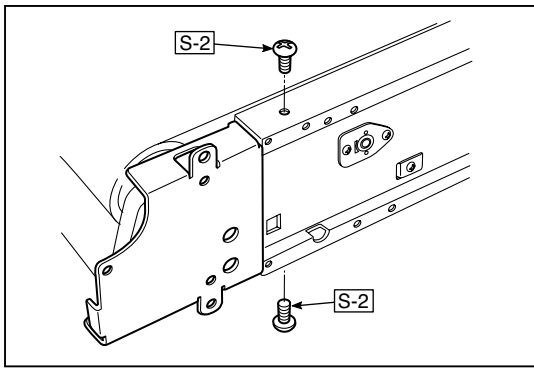

Fig.26
- 1.Remove the “S-2” screws shown in the figure 26.